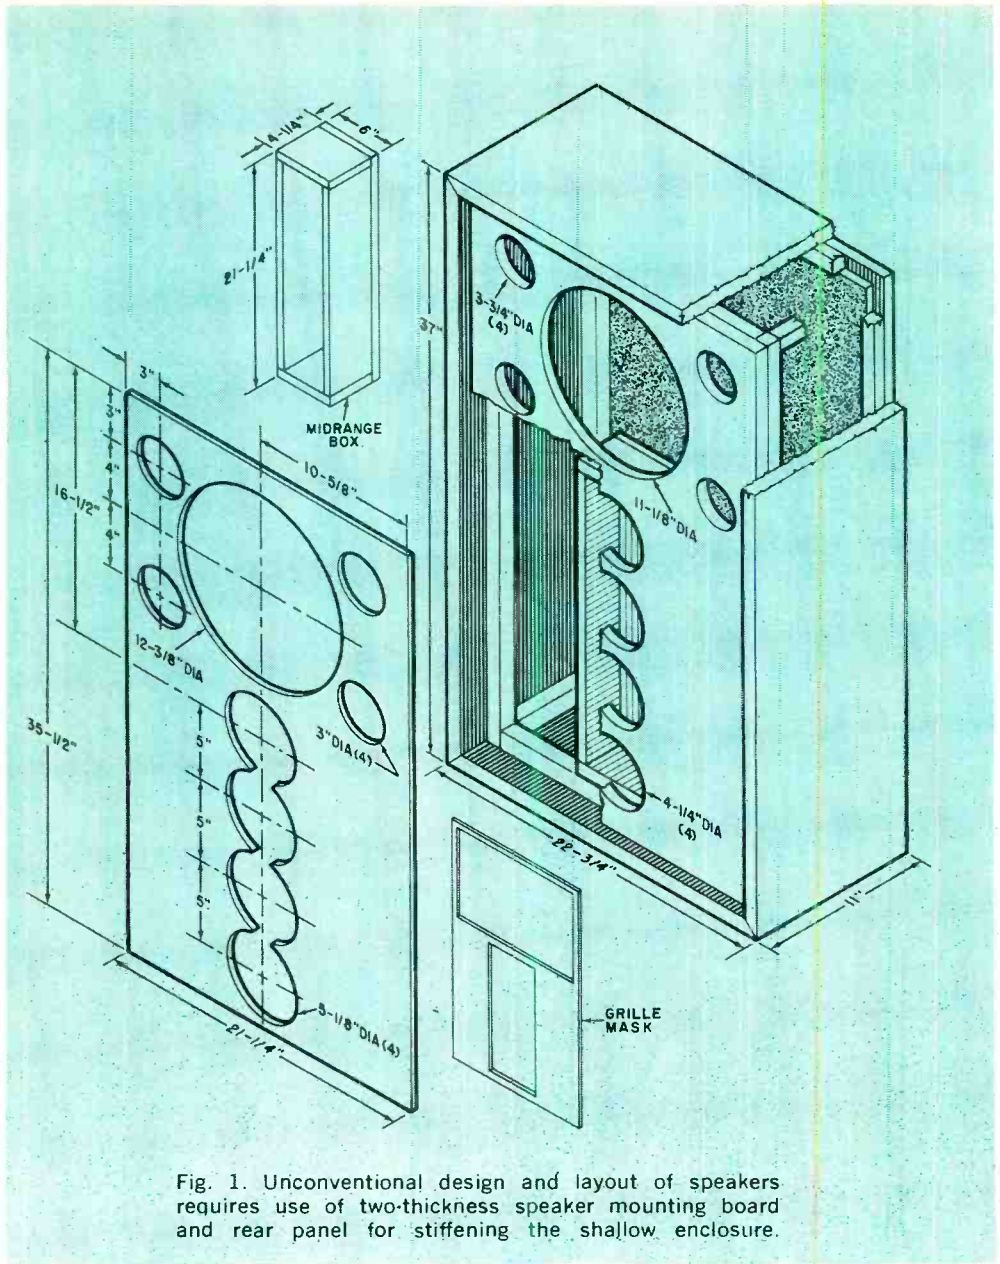

Fig. 1. Unconventional design and layout of speakers requires use of two-thickness speaker mounting board and rear panel for stiffening the shallow enclosure.
**About System.** The layout of component loudspeakers in the Continental (see Fig. 1) is a bit unconventional—but not without purpose. Interaction between
The first step to be performed is to cut to the dimensions specified in Fig. 1 and in the Bill of Materials the six 3/4" and
the  $\frac{3}{4}$ " and  $\frac{1}{4}$ " plywood panels together with the aid of C clamps or small finishing nails driven through the  $\frac{1}{4}$ " and into the  $\frac{3}{4}$ " panels at the corners. Now, referring back to Fig. 1, locate the centers for each of the nine speaker cutouts and at each location drill a small guide hole through both panels.
Fig. 1. The system is basically a ceramic transducer coupled to a high-gain amplifier. Only one output jack is actually required, the other can be used with an optional tape recorder.